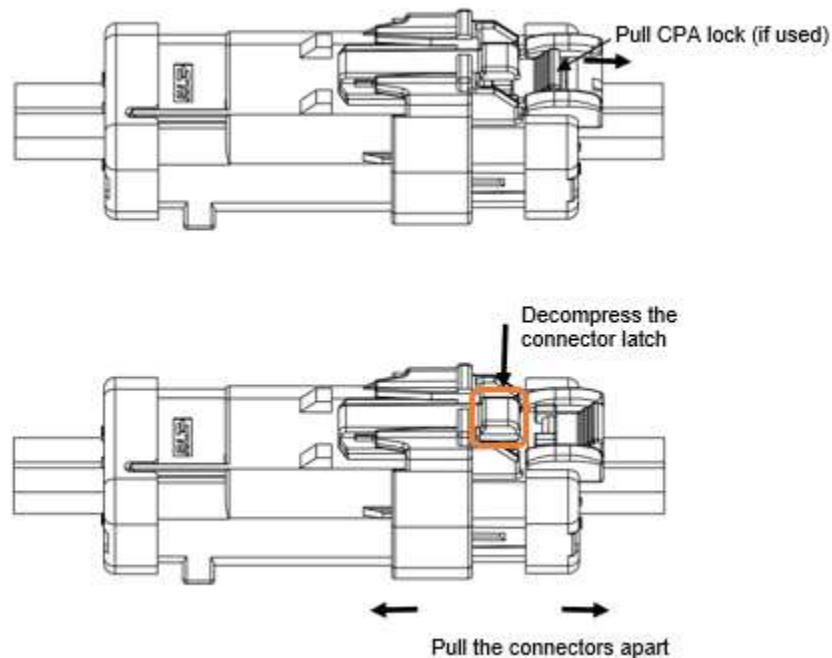

Figure 25
7.13.1 Pull back on CPA lock to unlock the connector and mating connector. Refer to Figure 25.